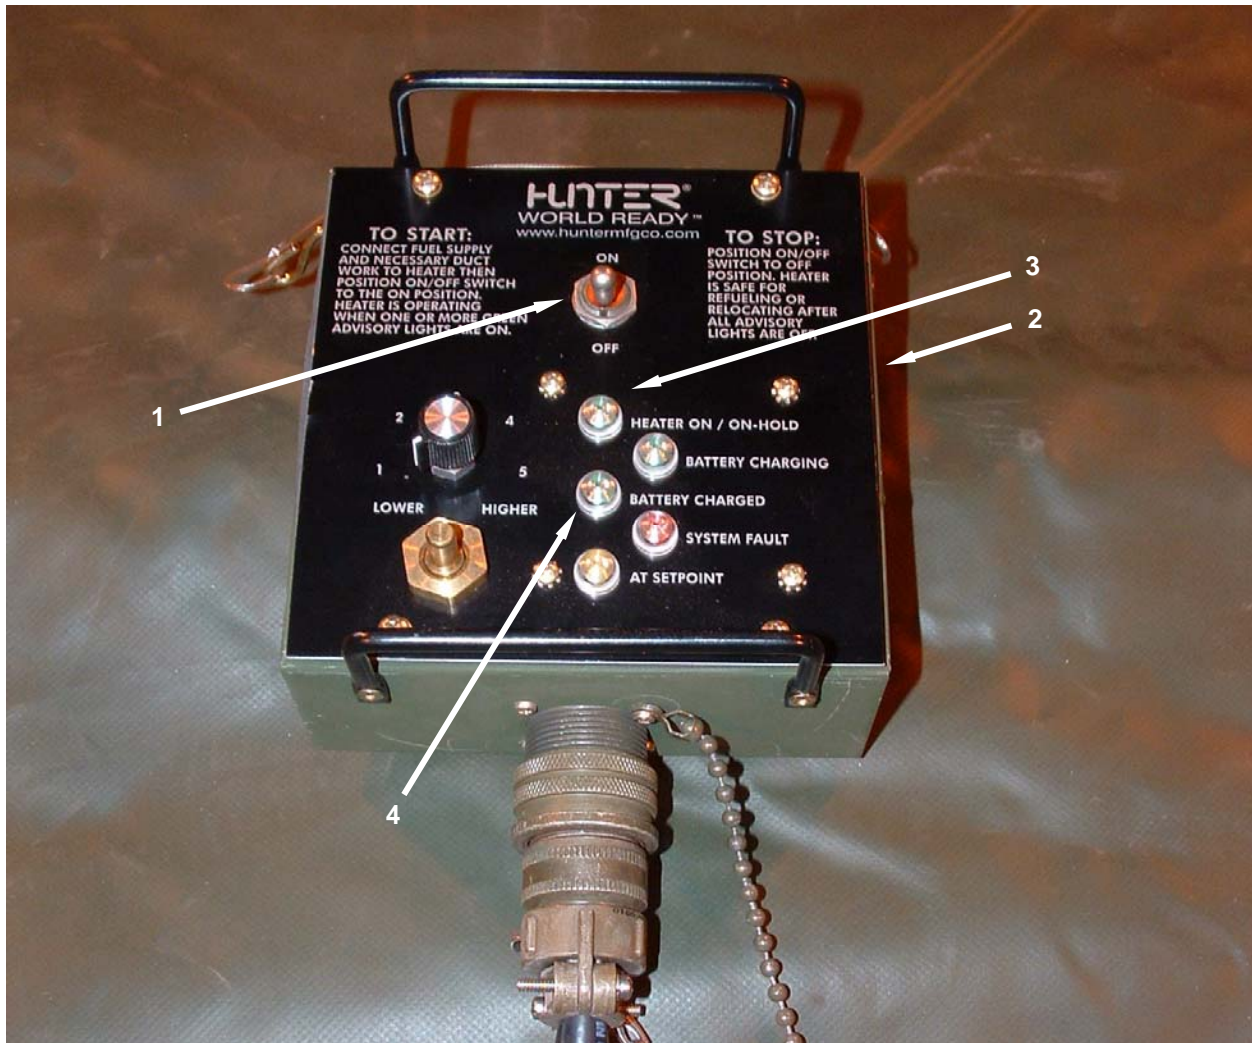

Figure 6. Charging the Battery During Normal Operation.
1. Place the heater ON/OFF switch (**Figure 6, Item 1**) of the in-tent controller assembly (**Figure 6, Item 2**) in the ON position and verify that green HEATER ON/ON-HOLD light (**Figure 6, Item 3**) is lit. (Refer to troubleshooting if light is not on). At a minimum, allow the heater to run through a complete charging cycle. A charging cycle starts when the heater ON/OFF switch is moved to the ON position and ends when green BATTERY CHARGED light (**Figure 6, Item 4**) comes on.
2. If heat is no longer desired, place the heater ON/OFF switch (**Figure 6, Item 1**) in the OFF position and verify that the blower fans stop after post-purge. Cool down is then complete.